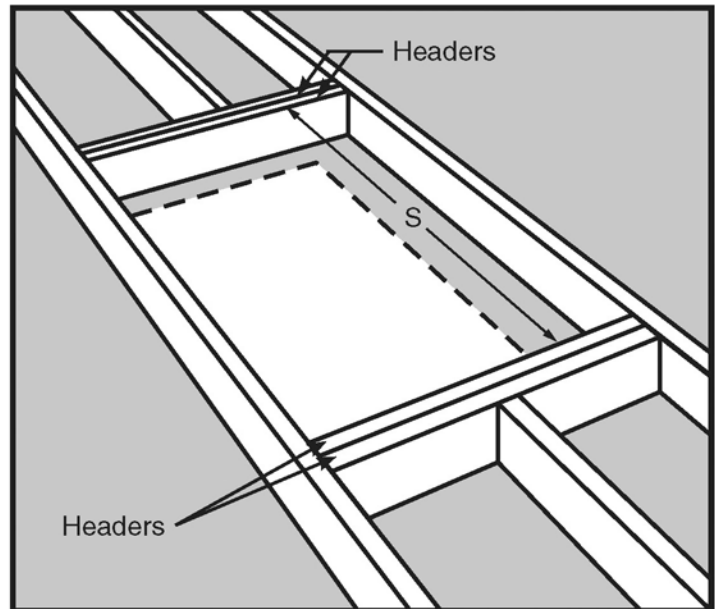

Figure 17
- STEP 1. Measure the stringer length "S" between the headers (See Figure 17).
- STEP 3. If the ceiling joist does not provide one side of the frame, then cut a second stringer the same length as the first one. Note that only one stringer is needed in Figure 17 because the ceiling joist provides one side of the frame.